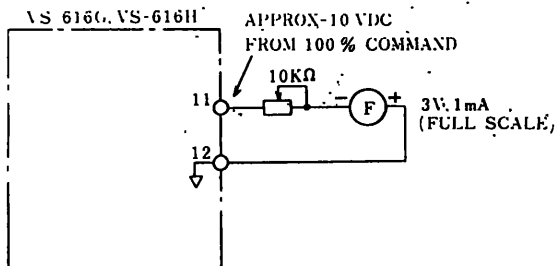

Fig. 6.24 Frequency Output Circuit
Terminals (11) and (12) are for connecting a frequency meter. While a +10V frequency command voltage is applied to terminal (6), approximately -10V_{DC} (2mA) output is obtained from terminal (11) (Fig. 6.24). Use a 3V, 1mA voltmeter with a frequency scale as the frequency meter.